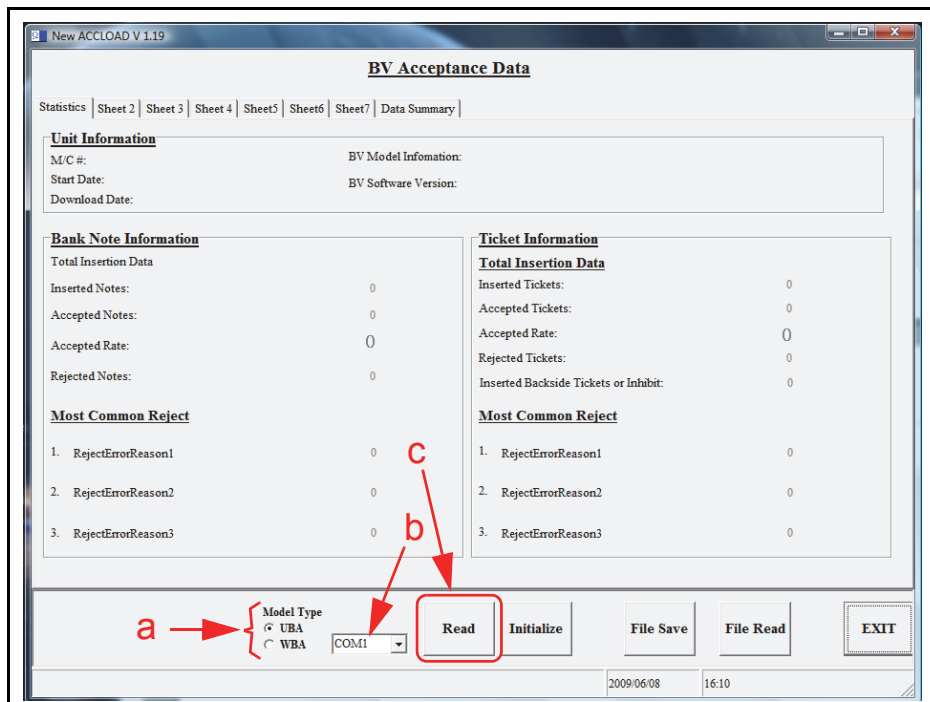

Figure 2 Initial AccLoad Program Screen
5. Open the Accload™ Program and Figure 2 will appear.
1. Select the Acceptor Model Type (See Figure 2 a).
2. Select the COM Port from the Pull-Down Menu where the Acceptor is connected (See Figure 2 b).
3. Mouse-click on the "**Read**" Screen Button (See Figure 2 c). The Accload™ Data will be retrieved from the Acceptor and displayed in each related area on the Figure 2 PC Accload™ Initial Program Page above the Screen Button.
1. **Read** – The Read Screen Button ① is used to read and/or retrieve the Accload™ information from within an Acceptor.
2. **Initialize** – The “Initialize” Screen Button ② is used to clear the Accload™ information from the Acceptor. All of the Screen Fields are initialized to a Zero (0) value state. When the “Initialize” Screen Button is selected, the Input M/C # Screen appears. An identifying Alpha-Numeric Tag can then be input. The Tag saves to the UBA® or WBA® Unit Memory, and will appear on the display when the Accload™ data is read. Selecting “Initialize” also records the PC Date and Time and stores it to the WBA® or UBA® Unit.
3. **File Save** – The “File Save” Screen Button ③ allows the Accload™ data to saved to a file on the PC. When selected the “Save As” Screen appears to allow a user to input a selected file name and directory location.
4. **File Read** – The “File Read” Screen Button ④ is selected when an existing Accload™ file on the PC needs to be viewed.
5. **EXIT** – The “Exit” Screen Button ⑤ is used to close and exit the program.
**NOTE:** The “Model Type” and Com Port Selection process was previously explained with Figure 2 on page 4 of this Guide.